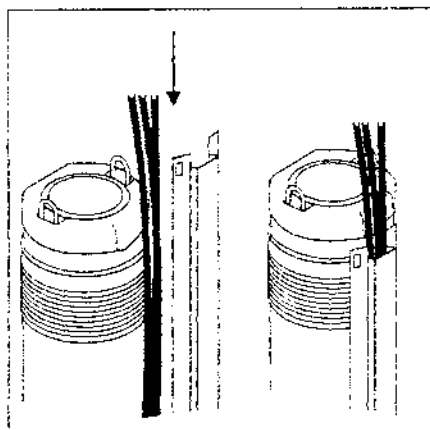

Fig. 7
2. The two flaps of the cable guard must engage with the upper edge of the pump sleeve, see fig. 7.